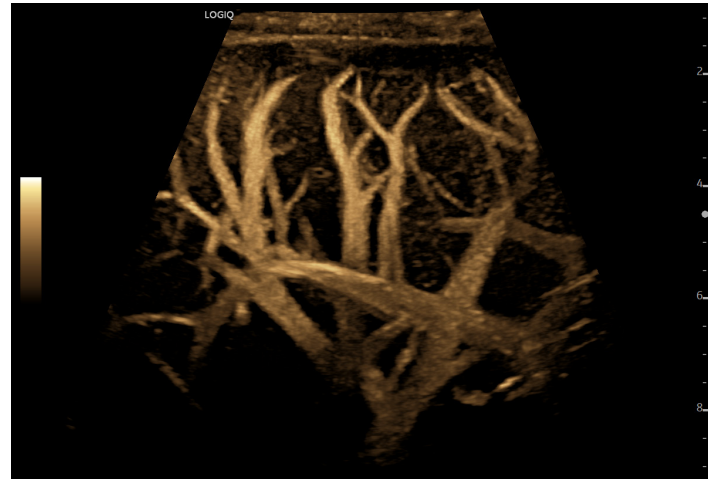

Figure 23. Liver vasculature using B-Flow cine capture.
- Evaluating liver surface for tortuosity of vessels (Figure 23)